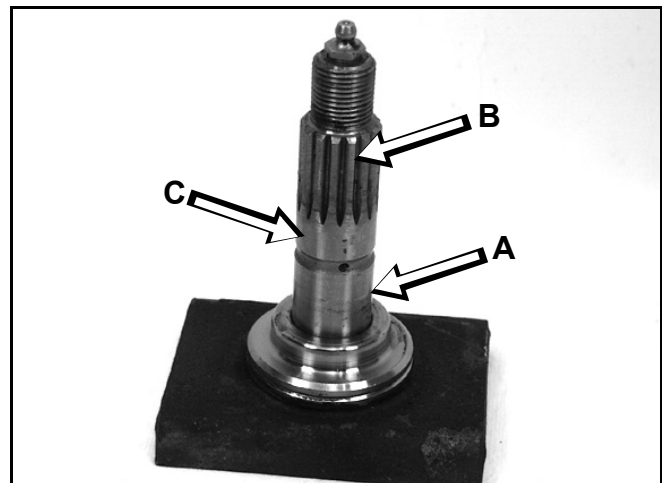

Figure 122
10. Inspect the spindle shaft for the following (Figure 122):
- A. Elongated grease axis hole (A) - Normally this hole is perfectly round if it is deformed it is directly a result of impact.
- B. Damaged splines (B) - If the splines are twisted, it is a sign of impact. If they are worn, it's an indication that the assembly was running with the pulley loose.
- C. Damaged shaft (C) - When the shaft is worn at the point where the upper bearing is located in the assembly, it is a result of the assembly running loose.